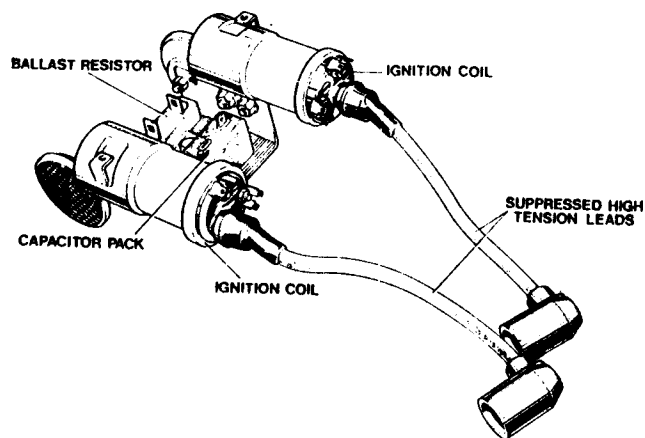

Fig. F5 Coil cluster from rear beneath
- 16 Refit the coil cluster, (the cluster is illustrated in Fig. F5) and reconnect the contact breaker leads colour to colour.